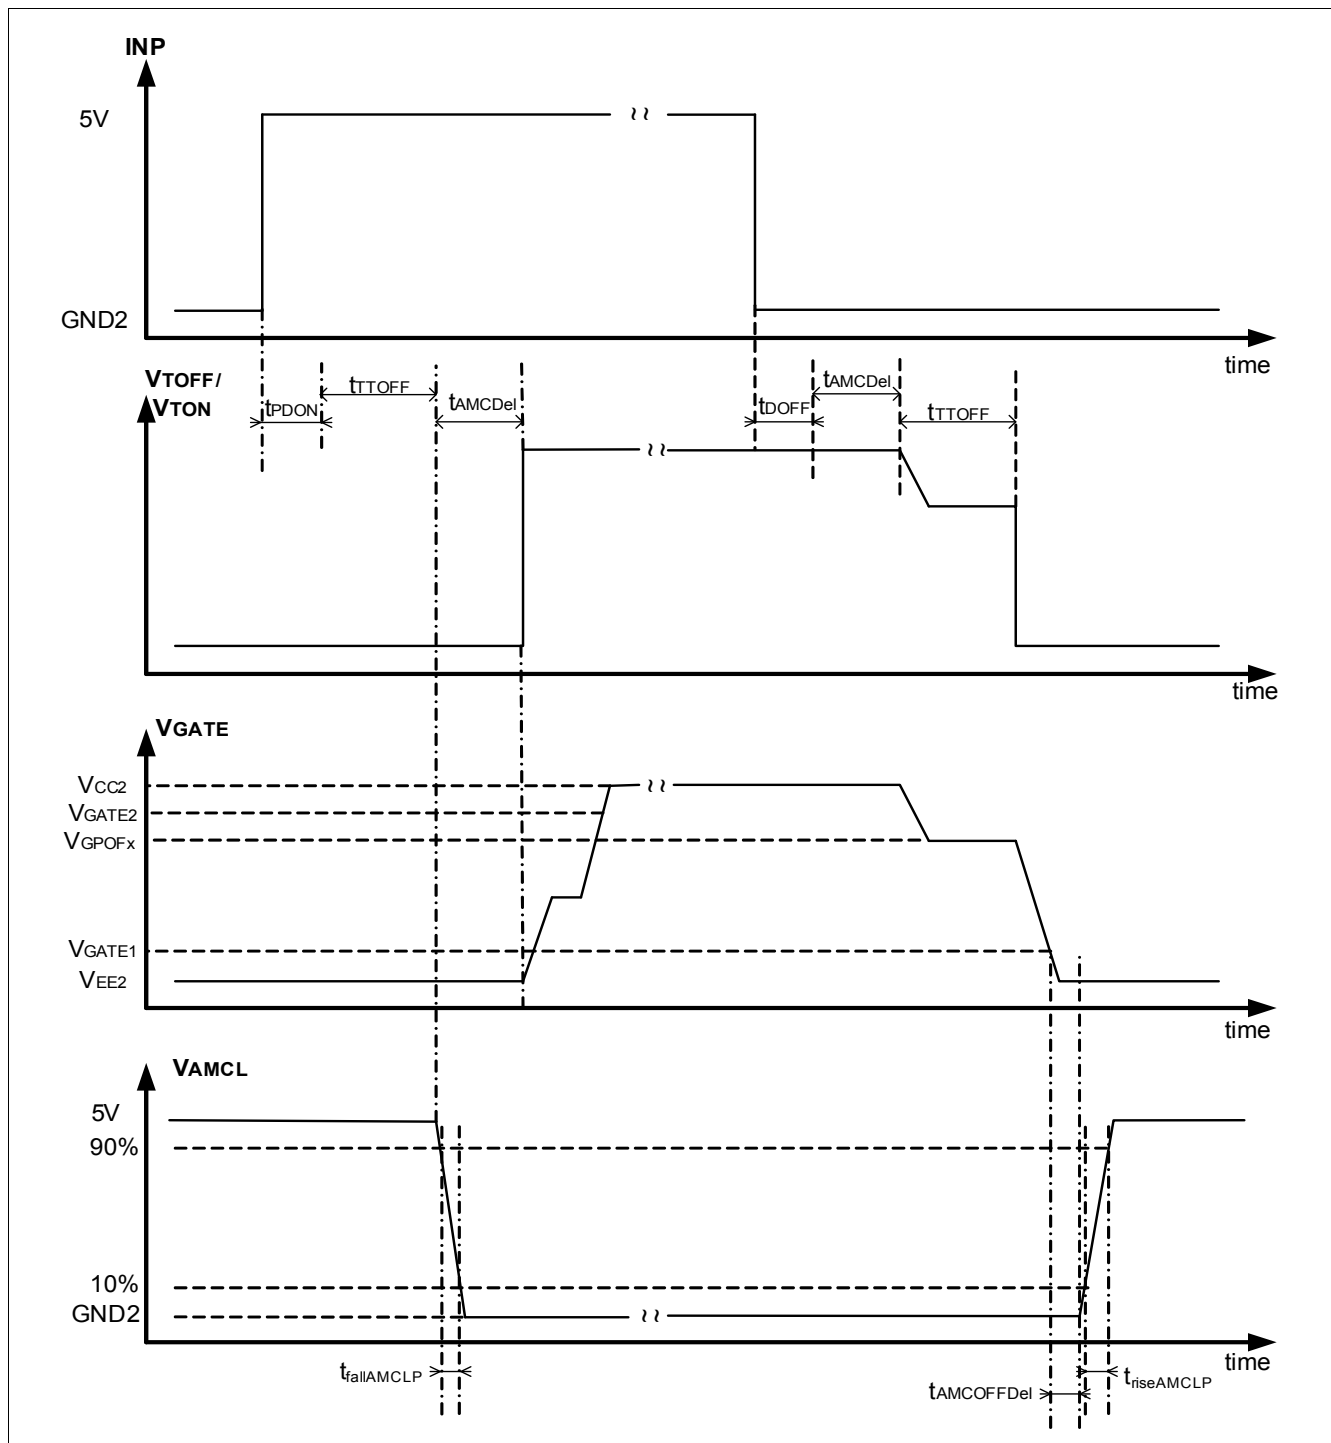

Figure 16 AMCLP operation
**Note:** The timing  $t_{DOFF}$  doesn't consider the **SCFG.AMCLD** setting (**Figure 16**). The regular turn-on/off processing will be delayed by the **SCFG.AMCLD** value if setting is  $> 0$  (refer to **Table 59**).
At turn-on, in order to avoid the risk of cross-current in the output stage of the device, a delay can be generated in order to delay the PWM control signal (**Figure 16**). The delay is configured via bit field **SCFG.AMCLD**.